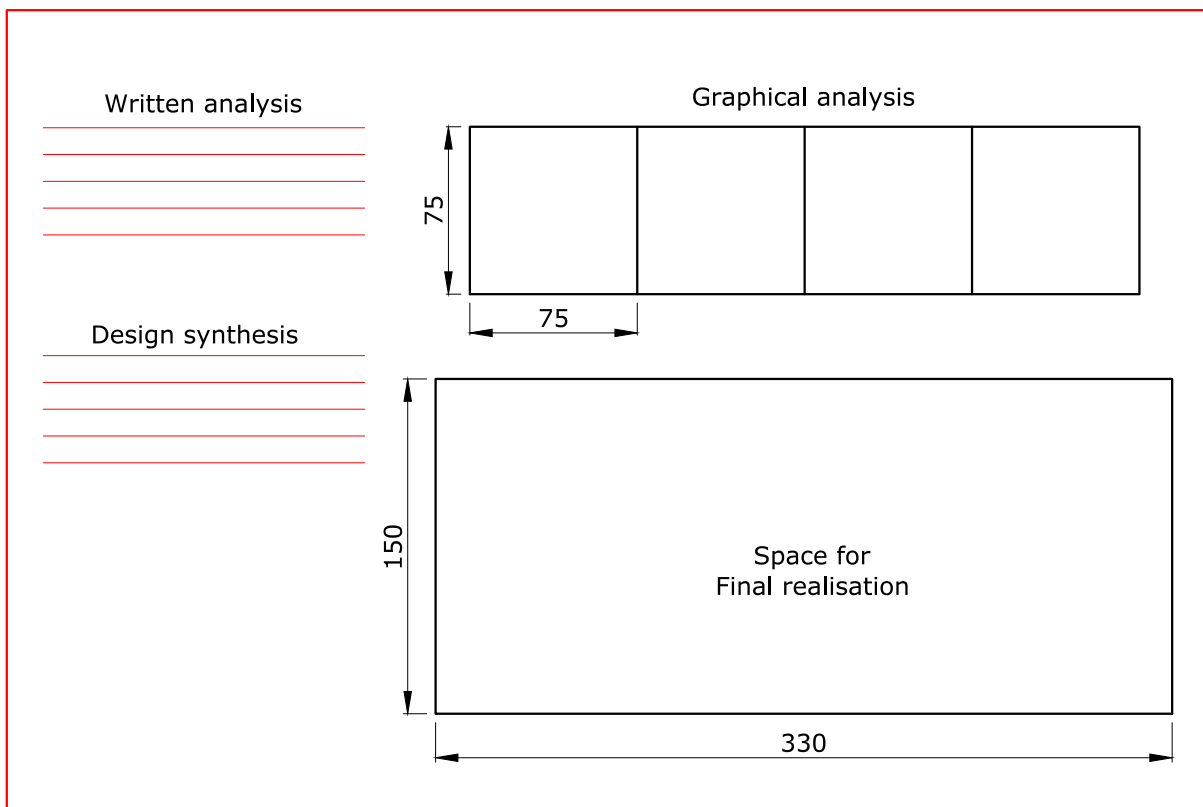

Figure 2
Design this banner and present your work broken down according to the following steps and as shown in Figure 2 below.
- Details of the page layout and the design space are shown in Figure 2 below.